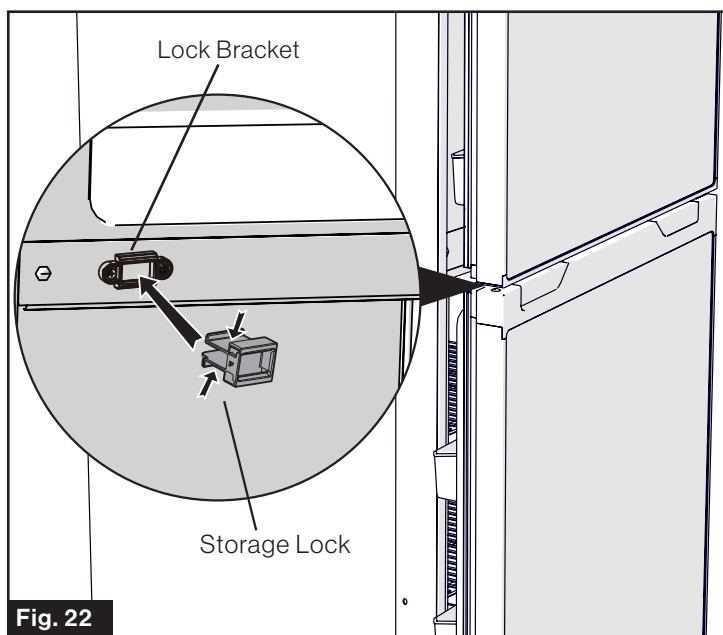

Fig. 22
- Press both sides of the Storage Lock as per the arrows shown in Fig. 22 and pull to remove the Storage Lock.